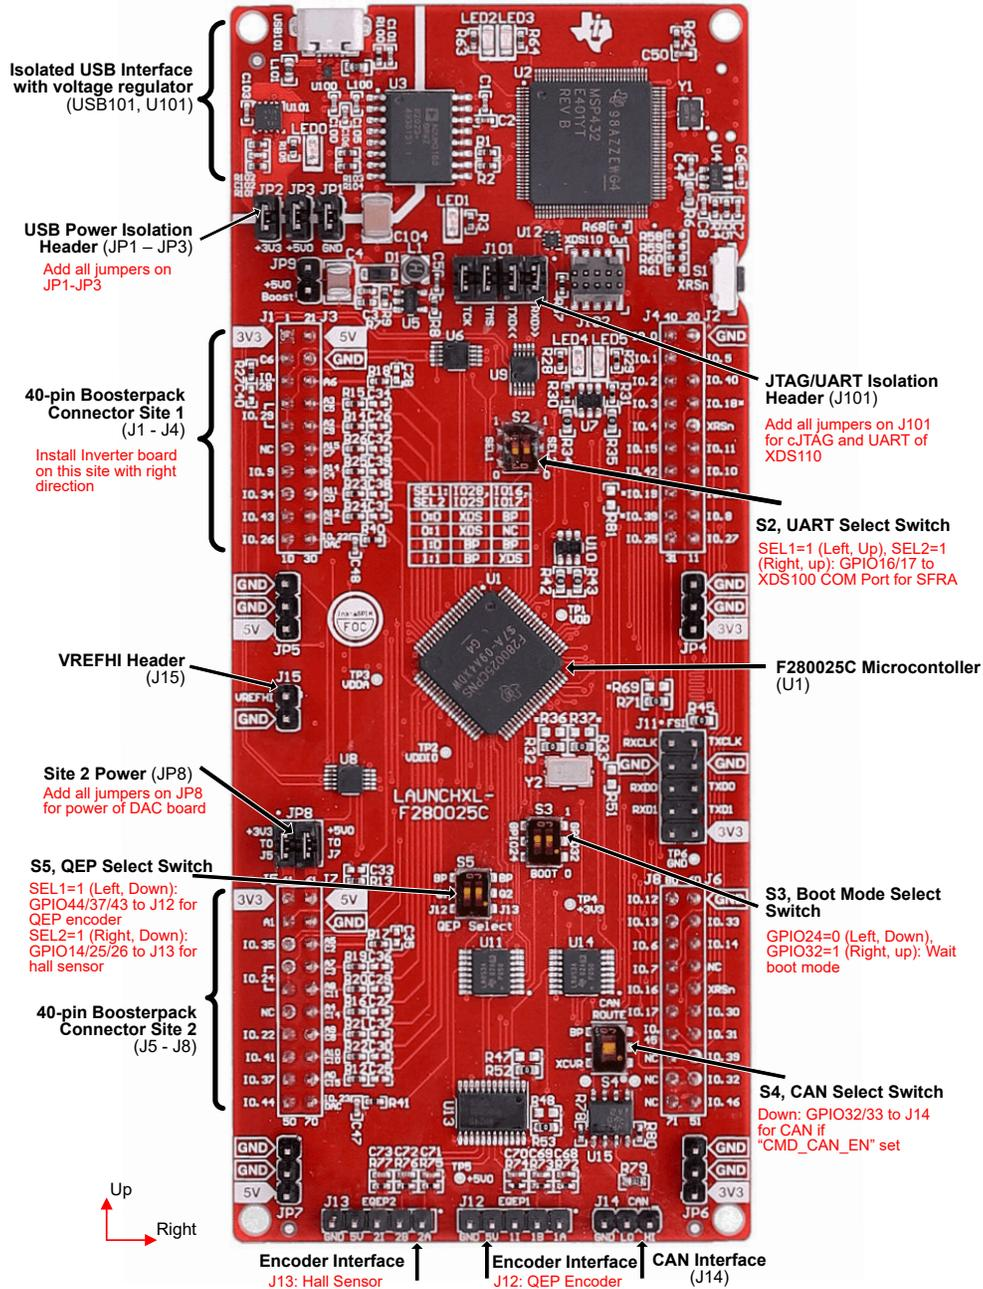

Figure 3-1. F280025C LaunchPad Board Overview and Switches Setting
- Make sure that the switches on the LAUNCHXL-F280025C are set as described below shown in Figure 3-1.
- For **S2**, position the SEL1 (LEFT) switch **UP** (1) to route GPIO28 and GPIO29 to the BoosterPack connector, and position the SEL2 (RIGHT) switch **UP** (1) to route GPIO16 and GPIO17 to the virtual COM port of the XDS110 debugger.